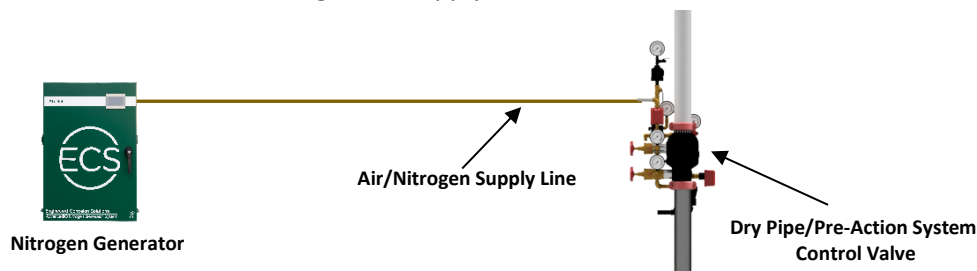

Figure 3a
Step 3a: Plumb the Nitrogen/Air Supply Line: No Additional Air Compressor (Figure 3a)